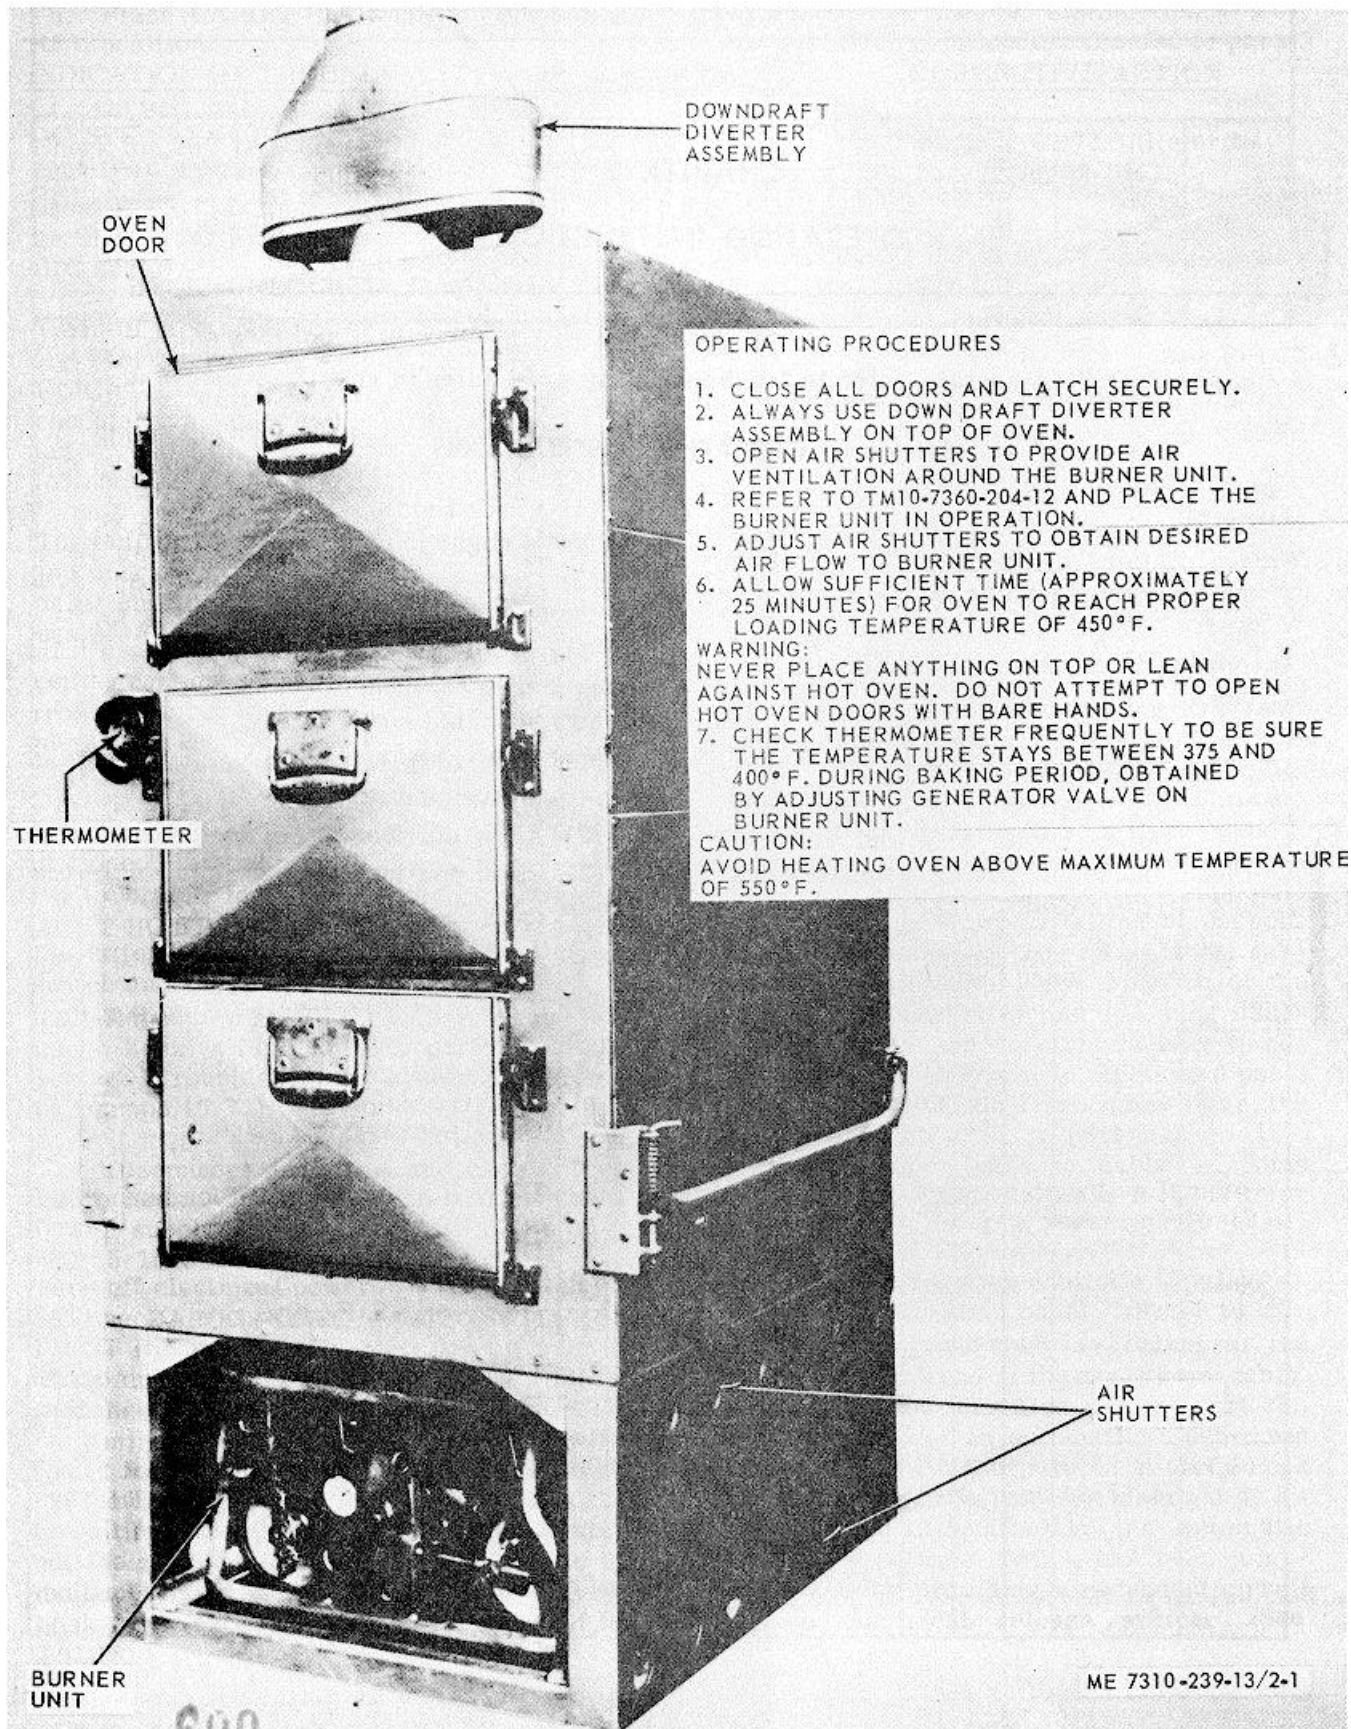

Figure 2-1. Operating procedures.
(1) Be sure oven is placed in an upright position on a level surface.
(2) Wipe off exterior parts of oven hot with a cloth dampened with soap and water.
(3) Clean inside of baking compartment with a brush or clean cloth.
(4) Check tightness of all screws and rivets to insure airtight joints and seams.
(5) Inspect all doors for proper closure, and door latches for proper operation.
*b. Operating Procedures.* Refer to figure 2-1 for procedures covering the operation of the oven.
(1) Refer to TM 10-7360-20412 and shut-down the burner unit.
(2) Allow sufficient time for oven to col.
(3) Clean and inspect oven following procedures in a above.
a Remove downdraft diverter (fig. 2-1) by slightly turning while lifting up and out.
b. Install downdraft diverter assembly (fig. 2-1) on top of oven.
c. Slide burner unit (fig. 2-1) in place in bottom of oven.